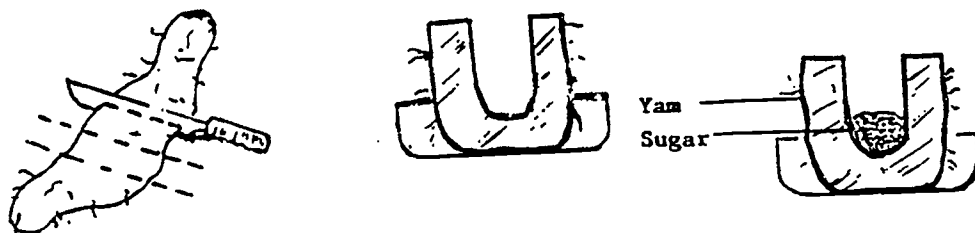

Fig. 01
2. With a sharp knife dig a hole in the middle of the yam. Be careful not to cut right through the piece of yam. See fig. 01.